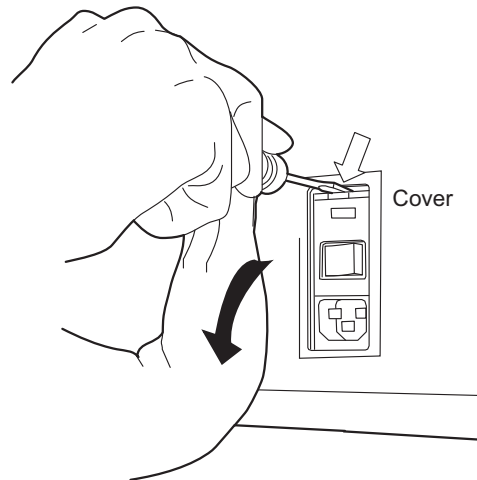

Figure 5-5 Remove Fuse Access Cover
4. Using the small #1 slotted screwdriver provided with the system, carefully pry open the cover of the power entry module (Figure 5-5).